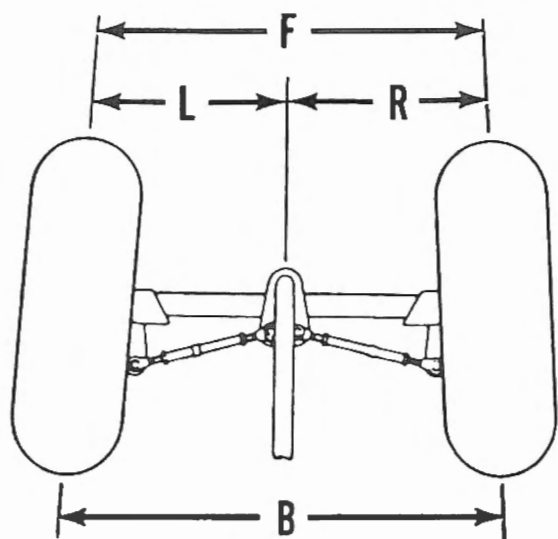

Fig. S13-19—Toe-in should be 11-19 mm (0.4-0.7 in.). Refer to text for measuring procedures.
To check toe-in, inflate tires to recommended pressure listed in CONDENSED SERVICE DATA. Position vehicle on a flat smooth surface and set handlebars straight forward. Position a load of 75 kg (165 lbs.) on vehicle's seat. Using a suitable tape measure, measure distance between right and left tire centerlines on back side of tires (B—Fig. S13-19) and record measurement. Locate the same tire centerline points on front side of tires (F) and record measurement. The front measurement should be 11-19 mm (0.4-0.7 in.) less than rear measurement. Note that the distance from a projected vehicle centerline to left (L) and right (R) tire centerlines should be equal.